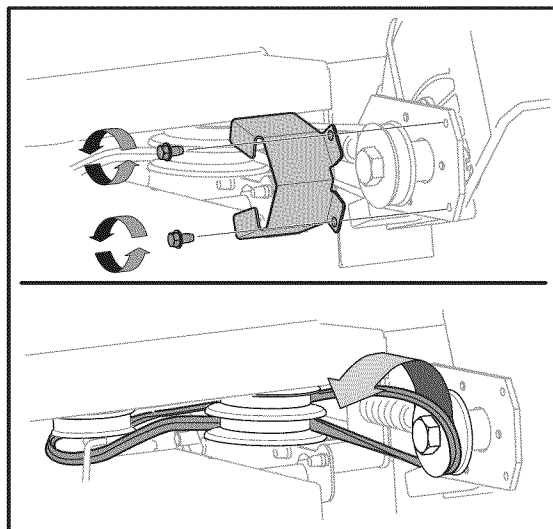

Figure 12
3. Remove the spindle sheaves belt guard by removing the two self-tapping screws which secure it to the blade plate assembly. See Figure 12.